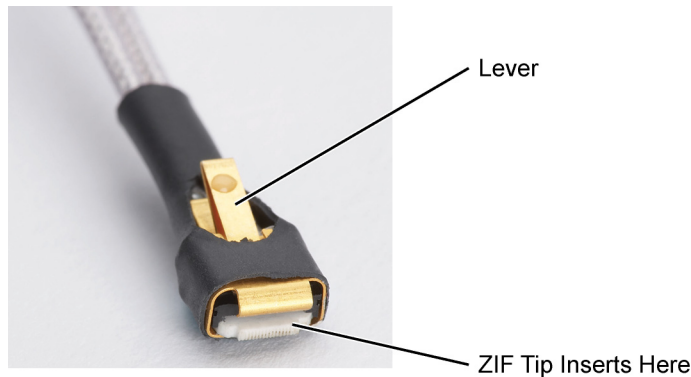

Figure 30 Probe Head with Location of the Lever
- 2 Form the coaxial cables to bring the probe head near the tip. Press the lever down on the ZIF probe head (see **Figure 30**) and slide the probe head onto the tip. Pressing on this lever removes the clamping force of the connector and enables you to insert or remove ZIF tips.